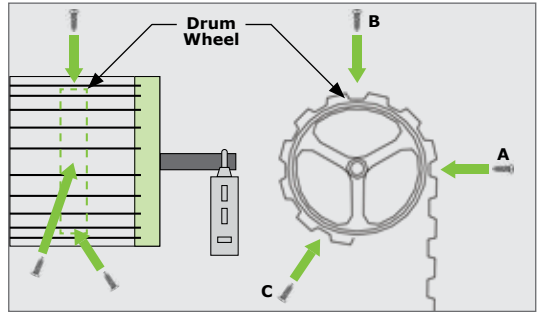

FIGURE 24
2. With the garage door in the fully-closed position, mark the curtain at points "A", "B" and "C" as depicted in Figure 24.²